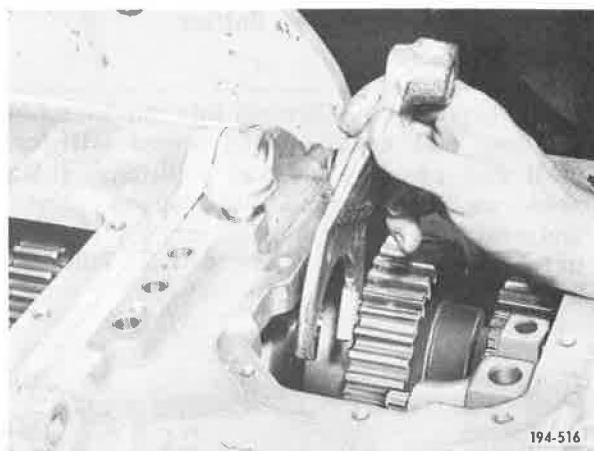

Figure 5-536. Installing Shift Fork
8. Install second/third speed shift fork onto second/third speed sliding clutch. See Figure 5-536.